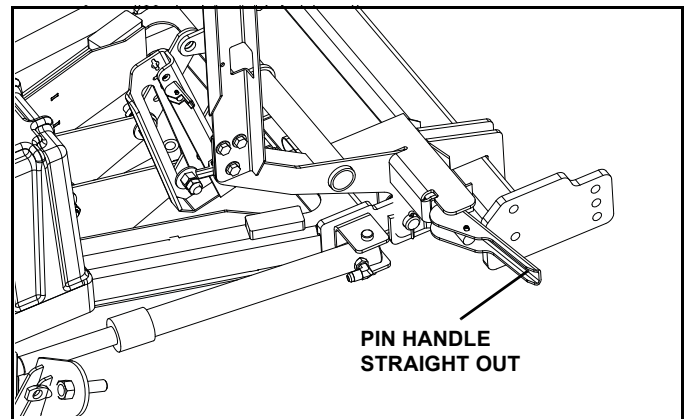

Figure 1-22
4. Push pin handles toward truck to unlock main pins. (See Figure 1-22)